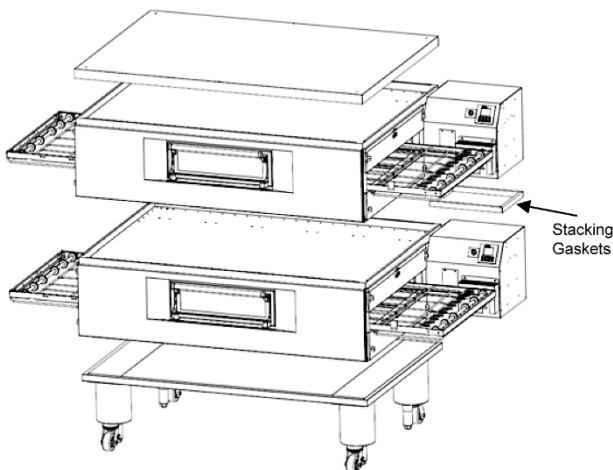

Figure 22. Stacking Order
4. Check the tension of the conveyor belt as shown in Figure 22. The belt should lift about 1" (25mm) **DO NOT OVER TIGHTEN THE CONVEYOR BELT.**
NOTE: If necessary, the belt tension can be adjusted by turning the conveyor adjustment screws, located at the idler (non-control) end of the conveyor. See Figure 22.